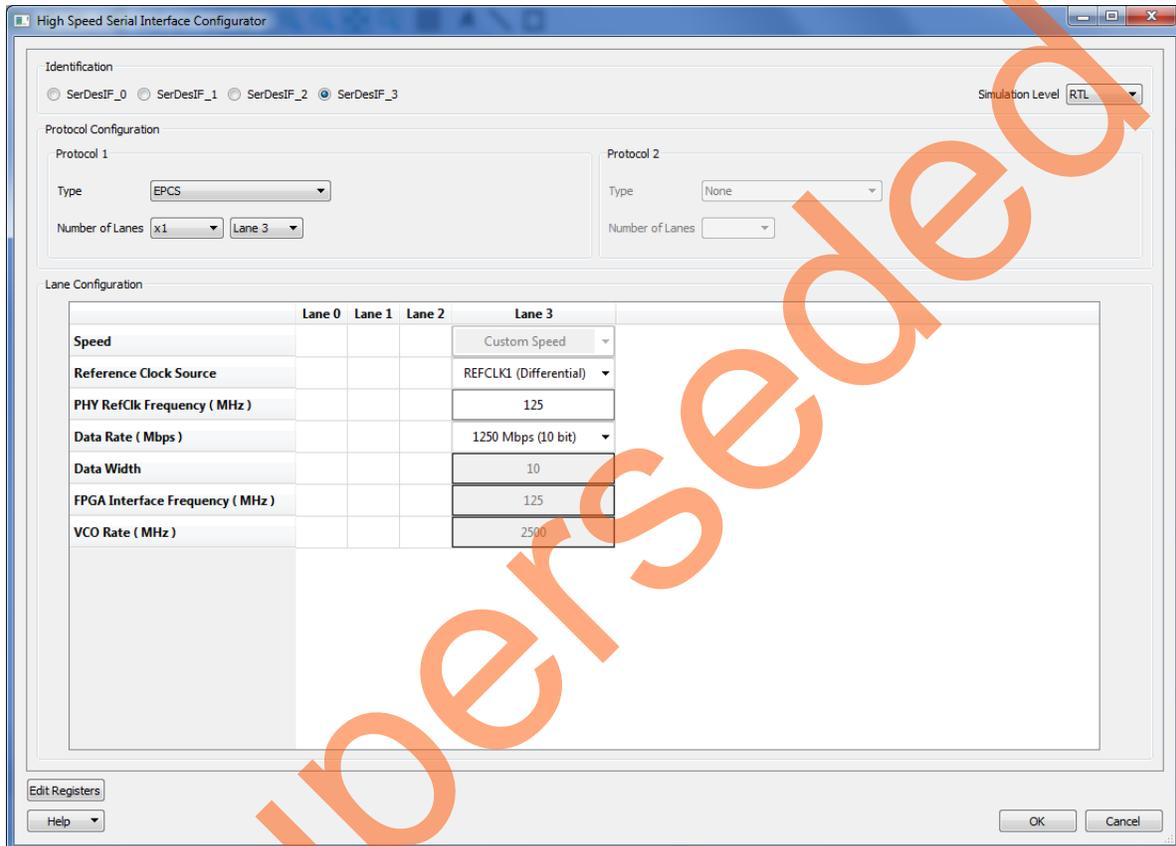

Figure 5 • High Speed Serial Interface Configurator Window
4. High speed serial interface (SERDESIF) **SERDES\_IF IP**, configured for **SERDESIF\_3 EPCS lane3** as shown in Figure 5.